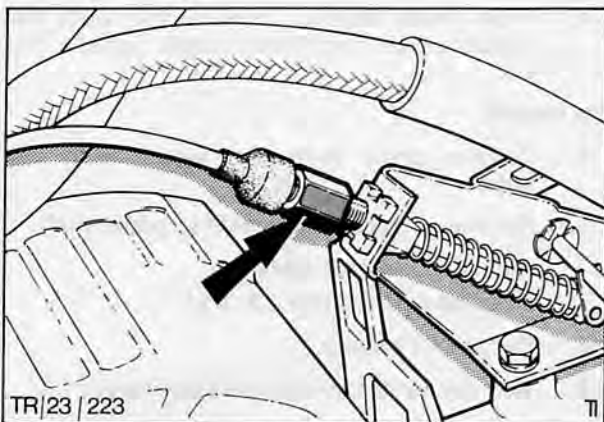

Fig. 80. Accelerator cable adjusting sleeve
4. Wind back adjusting sleeve nut to a point where carburettor linkage is just in the fully open position, Fig. 80.